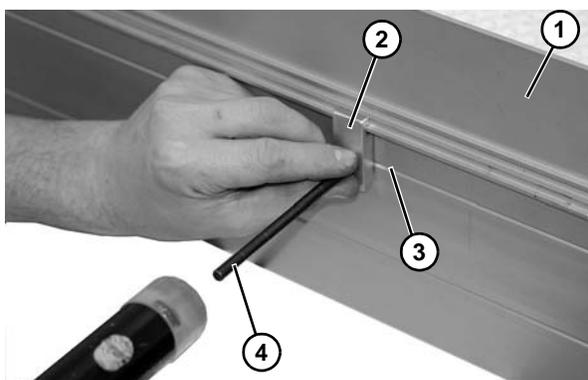

**Figure 23**
3. Hand tighten the screws to secure (**Figure 23**). Recommended torque is 150 in-lb (17 Nm).